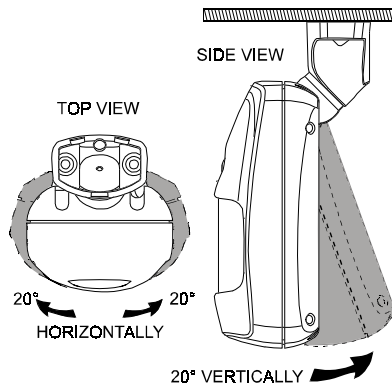

Figure 10. Tilt/Swivel Limits
J. Tilt down or swivel the detector to face the desired direction. Figure 10 shows the tilt/swivel possibilities.